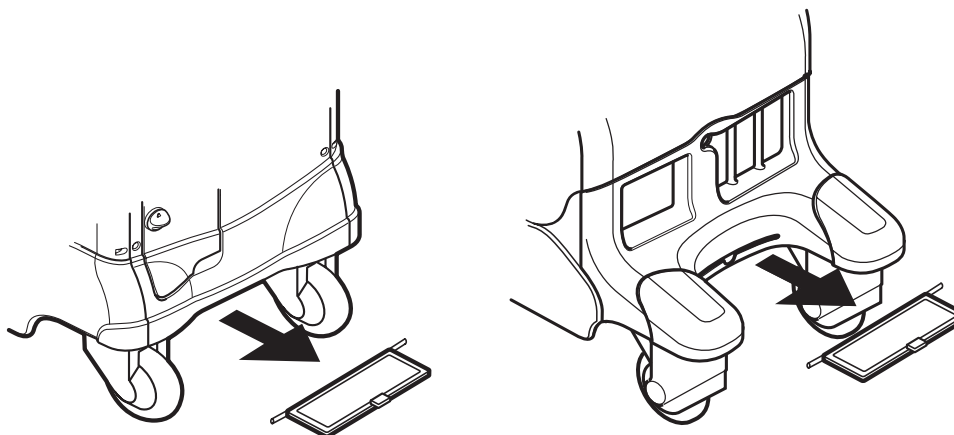

Figure 8-87 Removing the Air Filters
- 1.) Remove Air Filter as illustrated below. Refer to Figure 8-87.